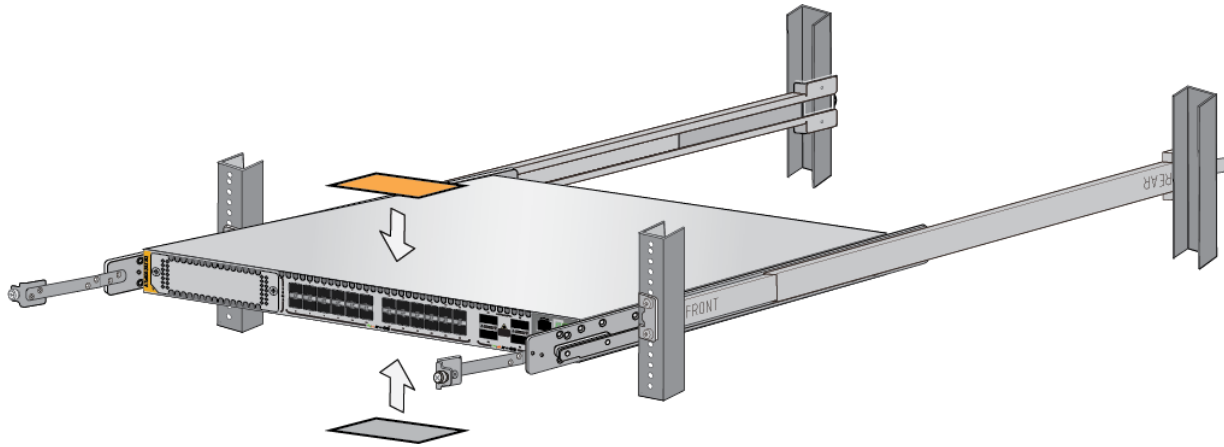

Figure 24. Affixing the Warning Labels
2. Affix the provided warning labels to the top and bottom of the switch, in locations immediately visible when removing the device from the rack. Refer to Figure 24 on page 36.